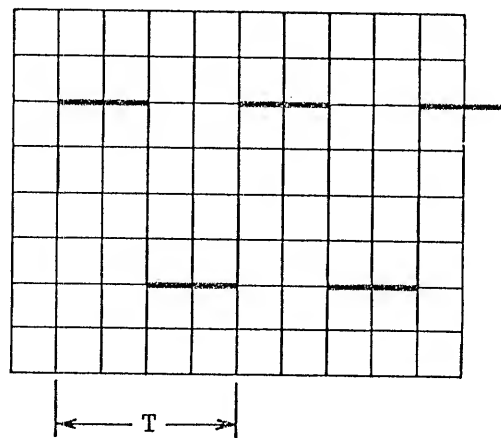

Figure 5-4
Apply to the X-axis a known frequency from a signal generator (SG) and to the Y-axis the frequency to be measured. Adjust the required controls so that a pattern is displayed on the full surface of the CRT screen. Then adjust the frequency of the signal generator so that the displayed pattern becomes stationary as shown in Figure 5-4. From the displayed waveform, the unknown frequency can be calculated as follows: